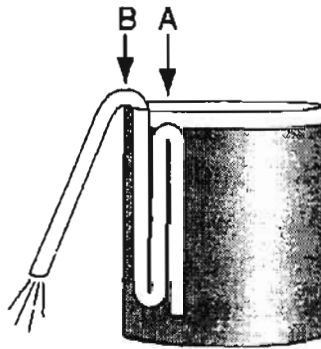

Figure TP5.1P2
2. If you push the tube shown in Figure TP5.1P2 into the glass of water so that bend A is below the water level, the tube will become a siphon, and drain the water out of the glass. Why does that happen?